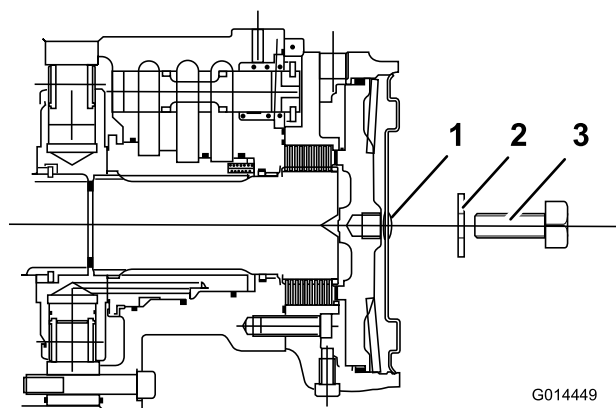

Figure 46
5. Tighten the set screw into the threaded hole in the brake piston until the brake is released (Figure 46).
6. Identify the left, front disc-brake assembly and repeat the previous procedure (Figure 46).